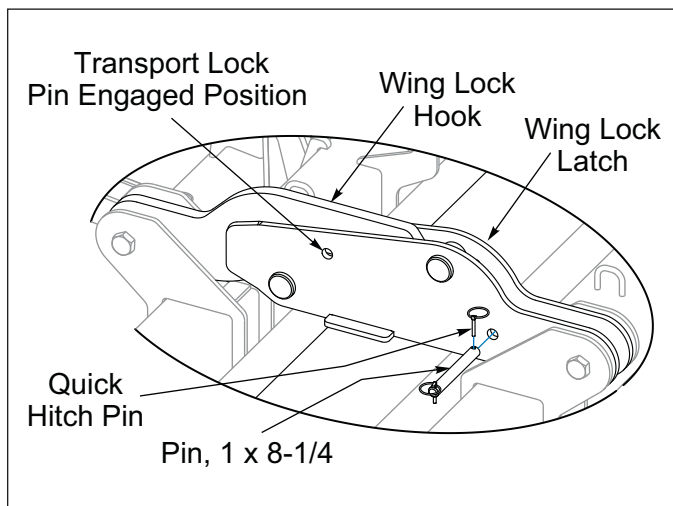

Figure 2-20: Wing Fold Lock Transport Lock Stored
3. Remove Wing Fold Lock Transport Lock Pin and place in storage location. See Figure 2-20.